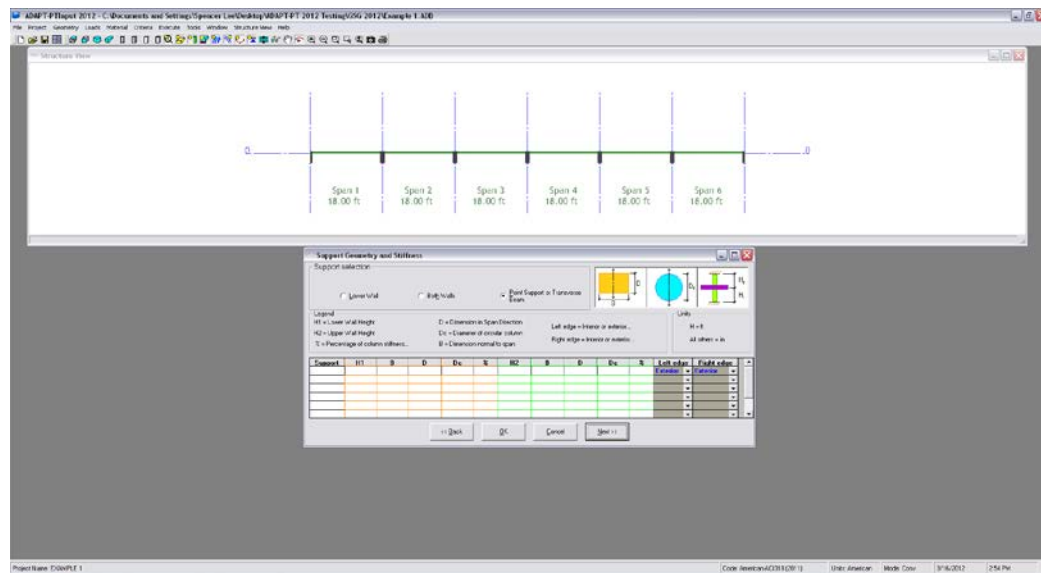

FIGURE 2.1-6
2.1.2.3 Enter Supports-Geometry (Fig. 2.1-6)